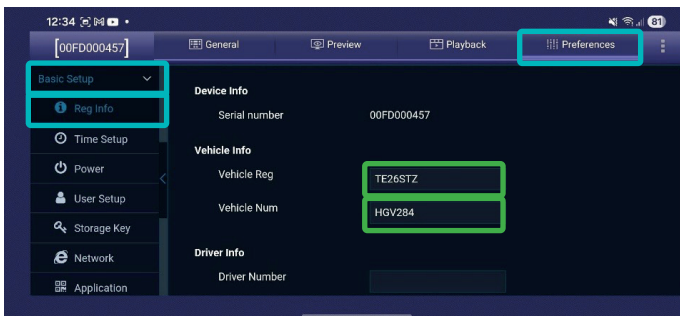

Fig. 3 If settings are changed, you must scroll down and select 'Save' to confirm.
2. App Navigation Overview (Fig. 3)
Screenshots Continued (Fig. 3 - Fig. 12)